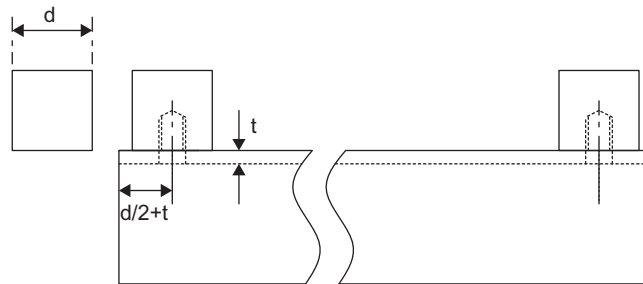

Figure 2.46
- Looking down onto the finished frame, the M5 clearance holes must be offset from the end of the channel by the half the pillar cross-section, plus the channel thickness. See Figure 2.46.